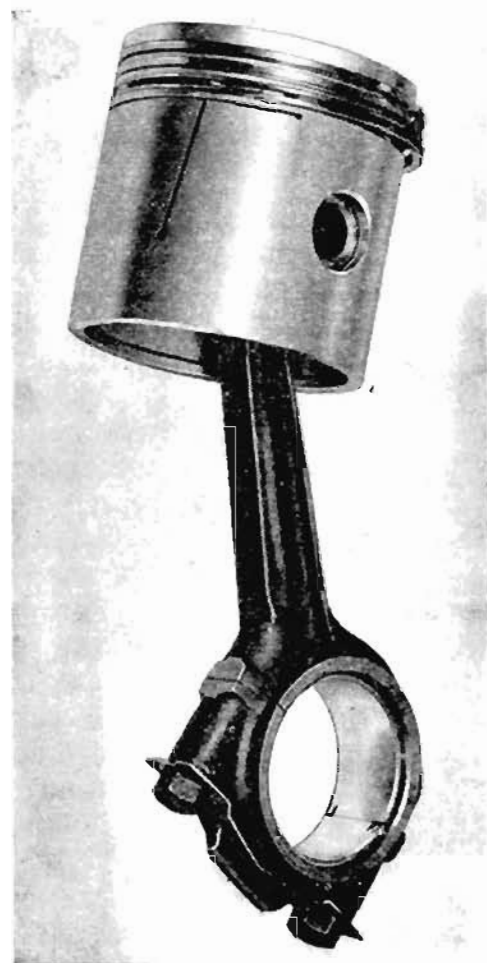

Fig. 7 The Piston and Connecting Rod Assembly. Note position of cap in relation to split in piston skirt.
- (e) **Aeroflex Compensating Pistons** (Fig 6) are employed, which are made from a special aluminium alloy and each provided with two compression rings and one oil scraper ring. The pistons are graded F, G or H (dimensions on page 2) and this symbol is stamped on the crowns. The piston skirt has a $\frac{1}{32}$ " slot on the non-pressure side and is fitted to the connecting rod so that this slot is away from the point of maximum thrust, Fig. 7 (facing the camshaft side of the engine).